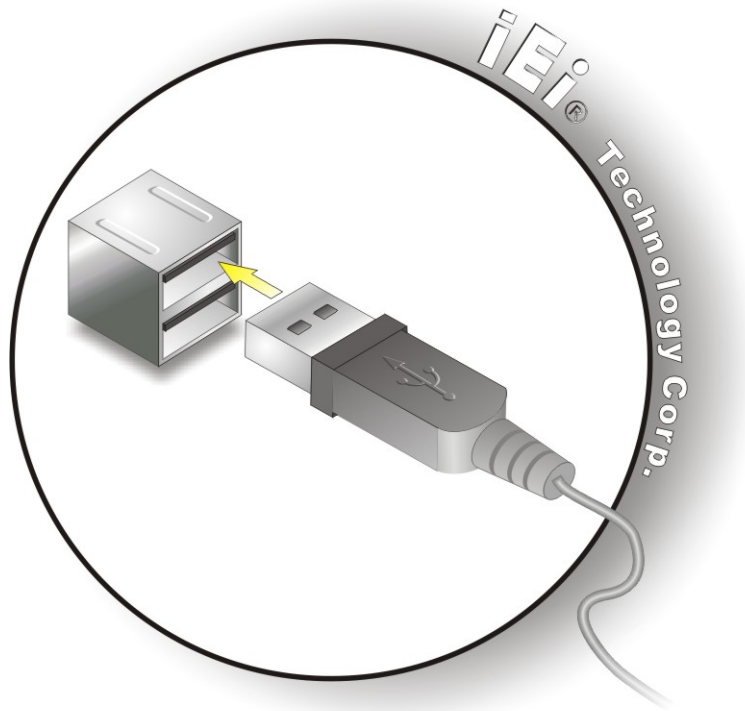

Figure 3-16: USB Device Connection
Step 2: **Align the connectors.** Align the USB device connector with one of the connectors. See **Figure 3-16**.